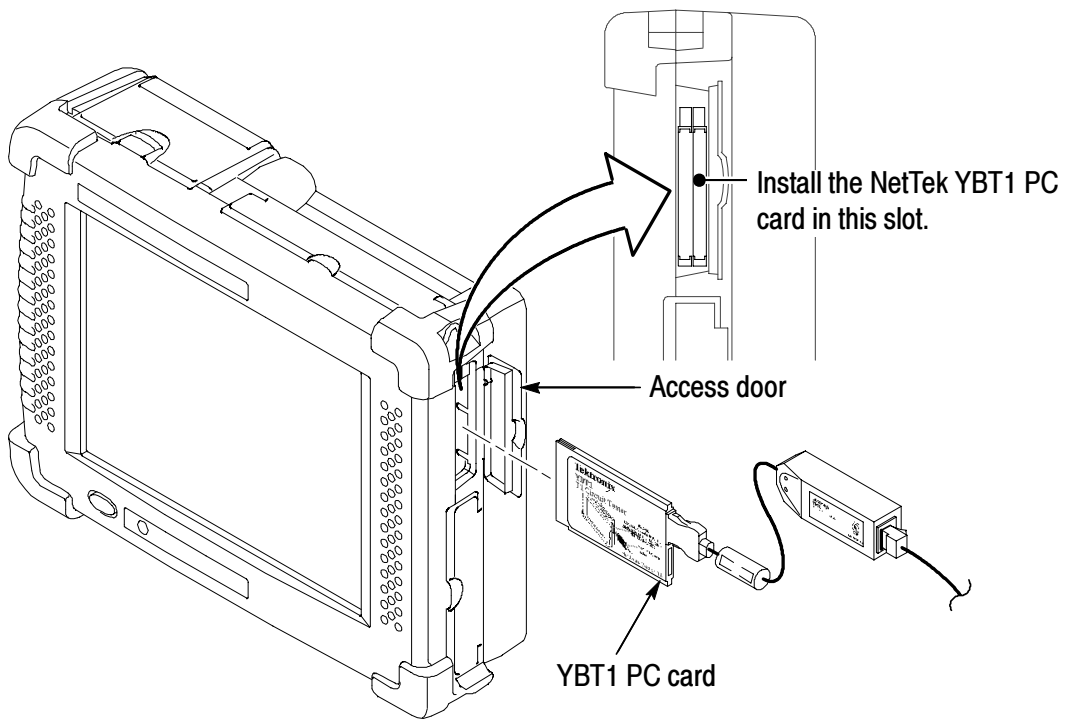

Figure 1-3: Installing the PC card
CAUTION. *To meet the electromagnetic emissions standards specified for this product, install the NetTek YBT1 PC card in the rear slot of the NetTek Analyzer Platform. See Figure 1-3.*
2. Open the PC card access door on the right side of the analyzer. See Figure 1-3.
3. Slide the PC card into the rear PCMCIA slot as shown in Figure 1-3. Make sure the Tektronix side of the label faces toward the display.